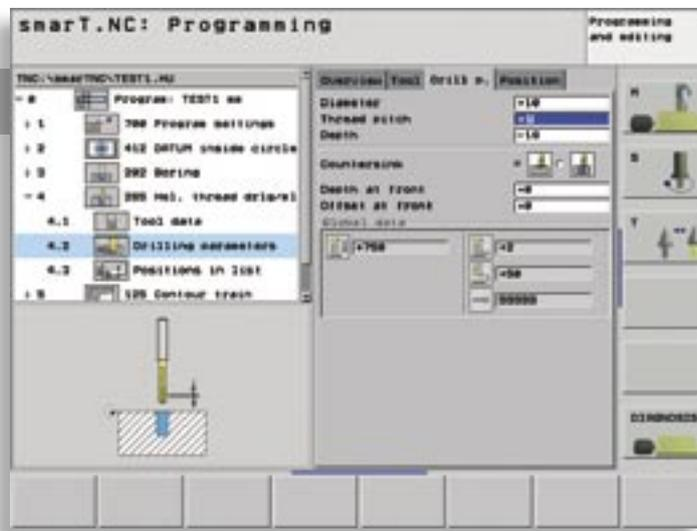

Figure 12: Detailed help graphics
- Clearly arranged help graphics that illustrate all required input (Figure 12)